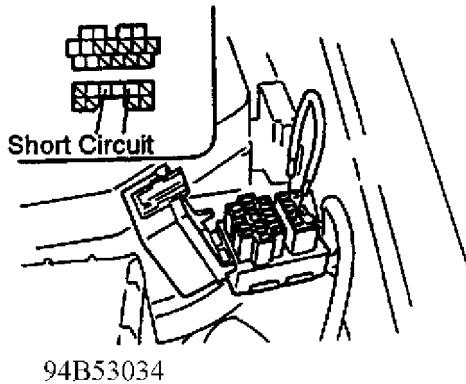

Fig. 7: Short Circuiting Fuel Pump
6. Short circuit the fuel pump test terminals (yellow 2 pin connector) with a jumper wire on the following vehicles (see Fig. 7).
7. Short circuit the fuel pump check terminal and the ground terminal of the diagnostic connector with a jumper wire on the following vehicles (see Fig. 7).